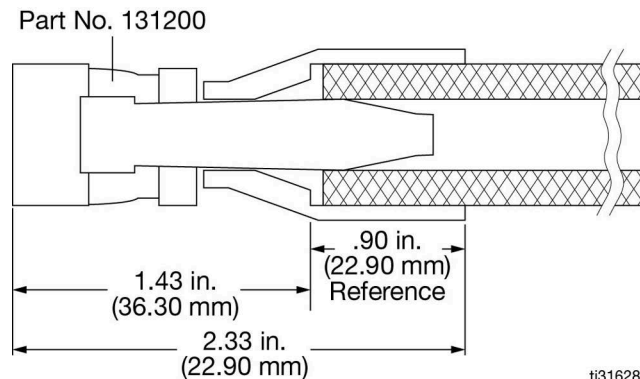

FIG. 62
After determining the final length of hose needed for the installation, connect the reusable swivel fitting (Part No. 131200), included with the hose, to the bare end of the hose (FIG. 62). Follow the Main Hose Assembly instructions in the **Main Line Hose Assembly**, page 69.
3. Add 1.43 in. (36.30 mm) to the total hose length to accommodate the depth of the socket after it is installed on the end of the hose (FIG. 62).